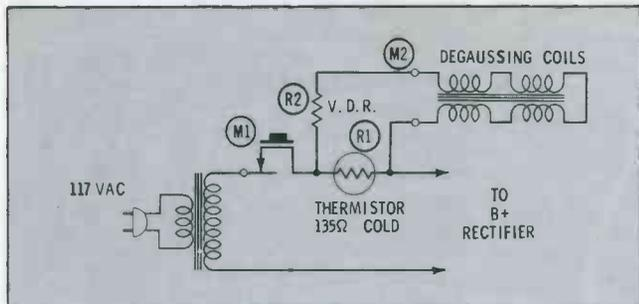

Fig. 6. Bad thermistor causes too much current in coils.
**Step 4:** Connect a VOM—AC volts scale—across the terminals to automatic-degaussing coils (Fig. 6).